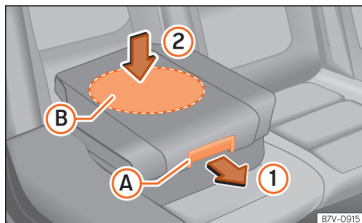

Fig. 36 Integrated child seat: lowering the cushion.
- Pull the unlock lever »»» **Fig. 36 (A)** on the cushion in the direction of the arrow **(1)**.
When lowering the integrated child seat, only press on the centre of the cushion »»» **Fig. 36 (2)**. Otherwise the cushion could bend and not engage properly.